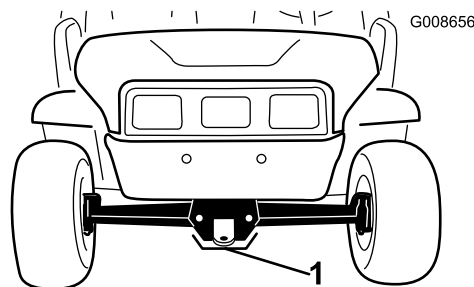

Figure 25
- The lifting point at the front of the machine is on the front of the frame behind the towing tongue (Figure 25).